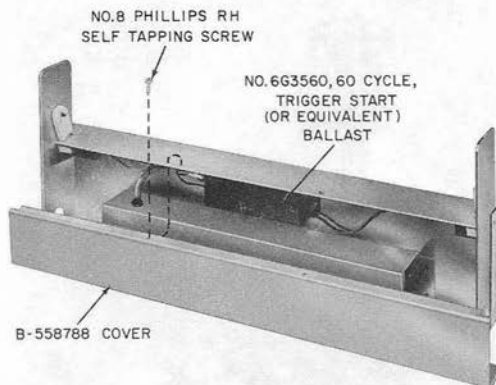

Fig. 15—KS-19322, List 1 Sign—Bottom View with Cover Removed
(b) Remove the bottom cover (Fig. 15) to make wiring area accessible.
- (g) Install bottom cover (Fig. 15), lamp, sign panel, end caps, and top cover.